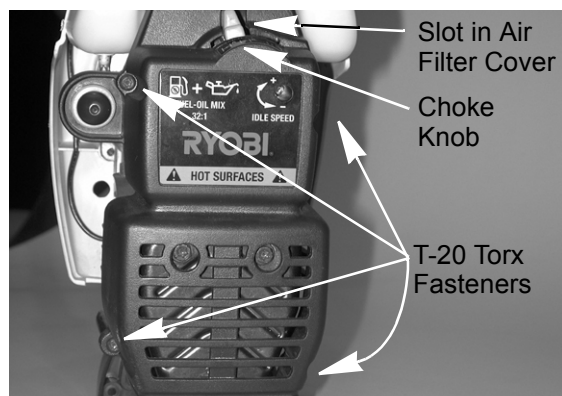

FIGURE 1
2. Remove the four T-20 Torx fasteners that hold the air filter cover to the engine. See Figure 1. Remove the air filter cover.